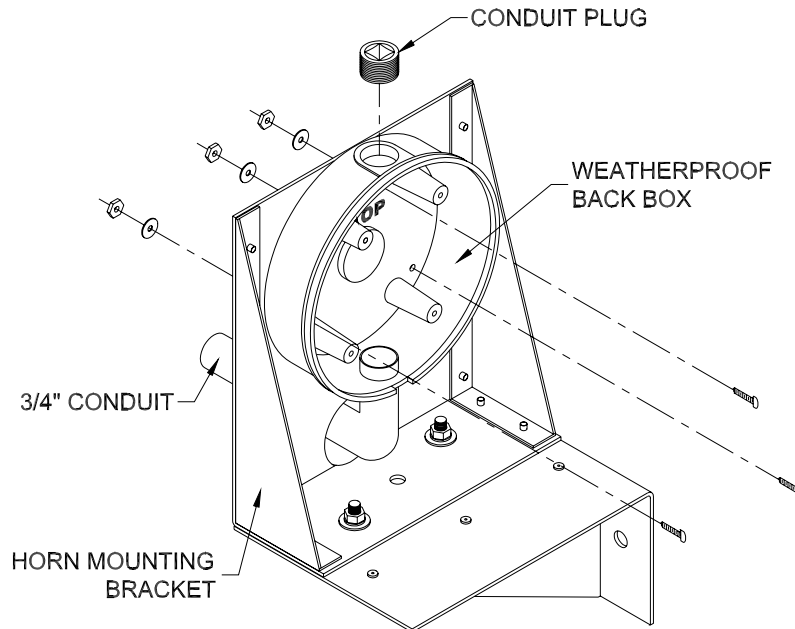

Figure 11 Back Box Mounting Points
- Attach the weatherproof back box to the mounting bracket using the provided 8-32 x 1/2" Phillips head machine screws, #8 split-lock washers, and 8-32 hex nuts as shown in figure 11.